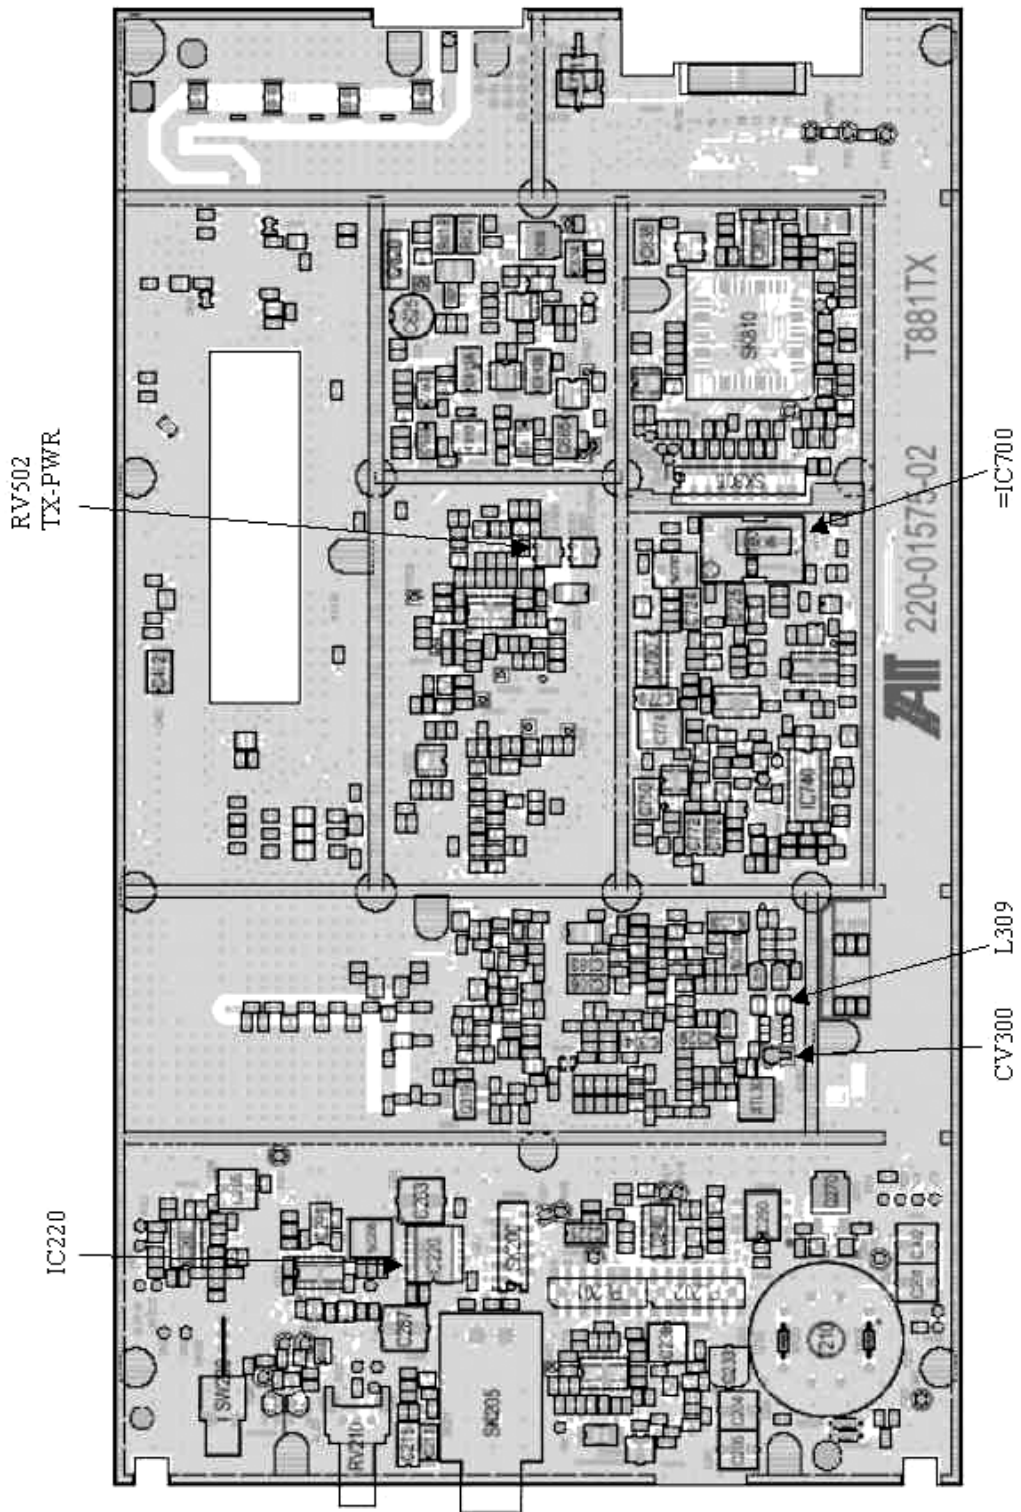

Figure 28 - T881-0200 Exciter Tuning Controls Locations
- 800/900 MHz (T881) = 4W  $\pm 300\text{mW}$  (RV502, Figure 28)